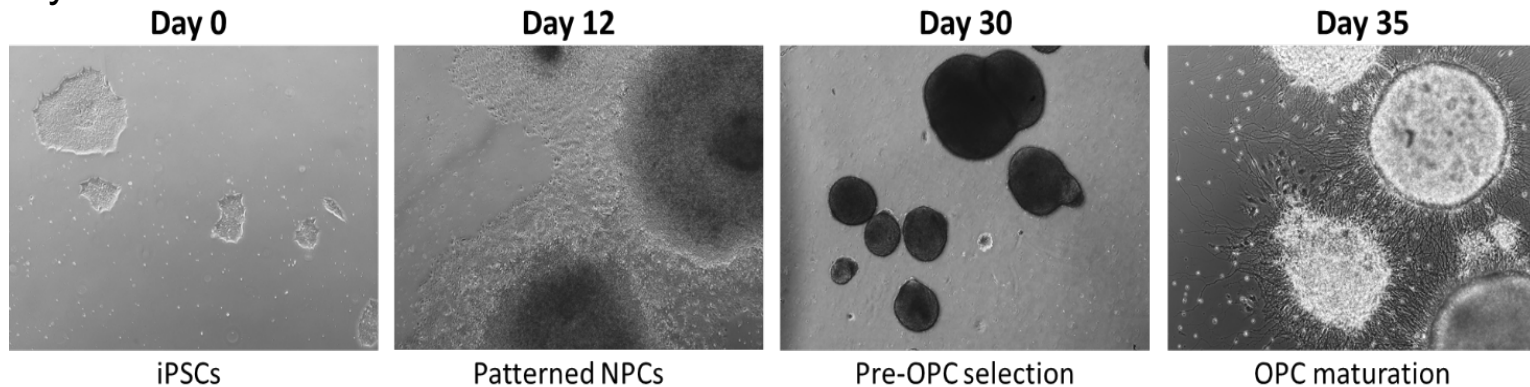

Figure 2. Brightfield image of cell morphology during the differentiation protocol
1. Once colonies are ~100–250 μm in diameter (see **Figure 2**), aspirate the old medium and induce differentiation by adding 2 ml of neural induction/patterning medium to each well. This is day 0.
- By day 12, overconfluent cells piling up and 3D structures should be clearly visible. This is an important checkpoint before proceeding with the differentiation (see **Figure 2**)